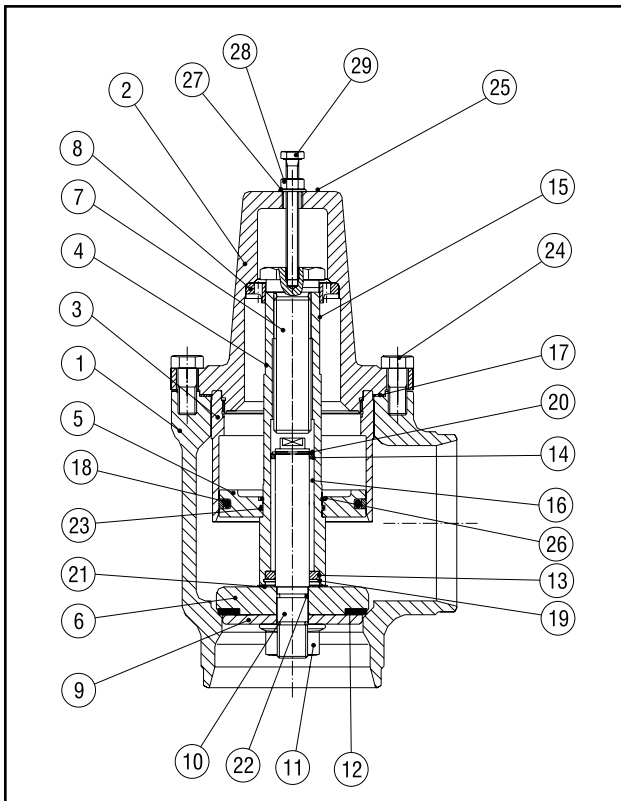

Figure 37 - Cold-Start Valve
Inside the valve (see Figure 37) there is a very heavy, tight spring (15). Provided the valve is intact, the spring presents no danger when dismantling. The spring is compressed with a large bolt (7). If it is necessary to repair the valve, it can be dismantled as follows:
1. To manually open the valve, mount the hexagon screw (29), the hexagon flange nut (28) and the nylon ring (27) as shown. Tighten the nut (28) a few turns, in order to redraw the valve cone from the seat.